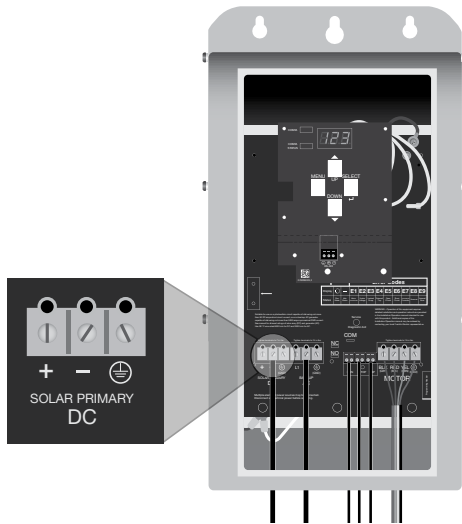

Figure 5: DC Wiring Connection
4. Connect the cables from the external DC disconnect to the terminal block labeled "Solar Primary DC" and marked +, - and GND. (Figure 5) (Torque specification: 15 in-lbs/ 1.7 N-m).